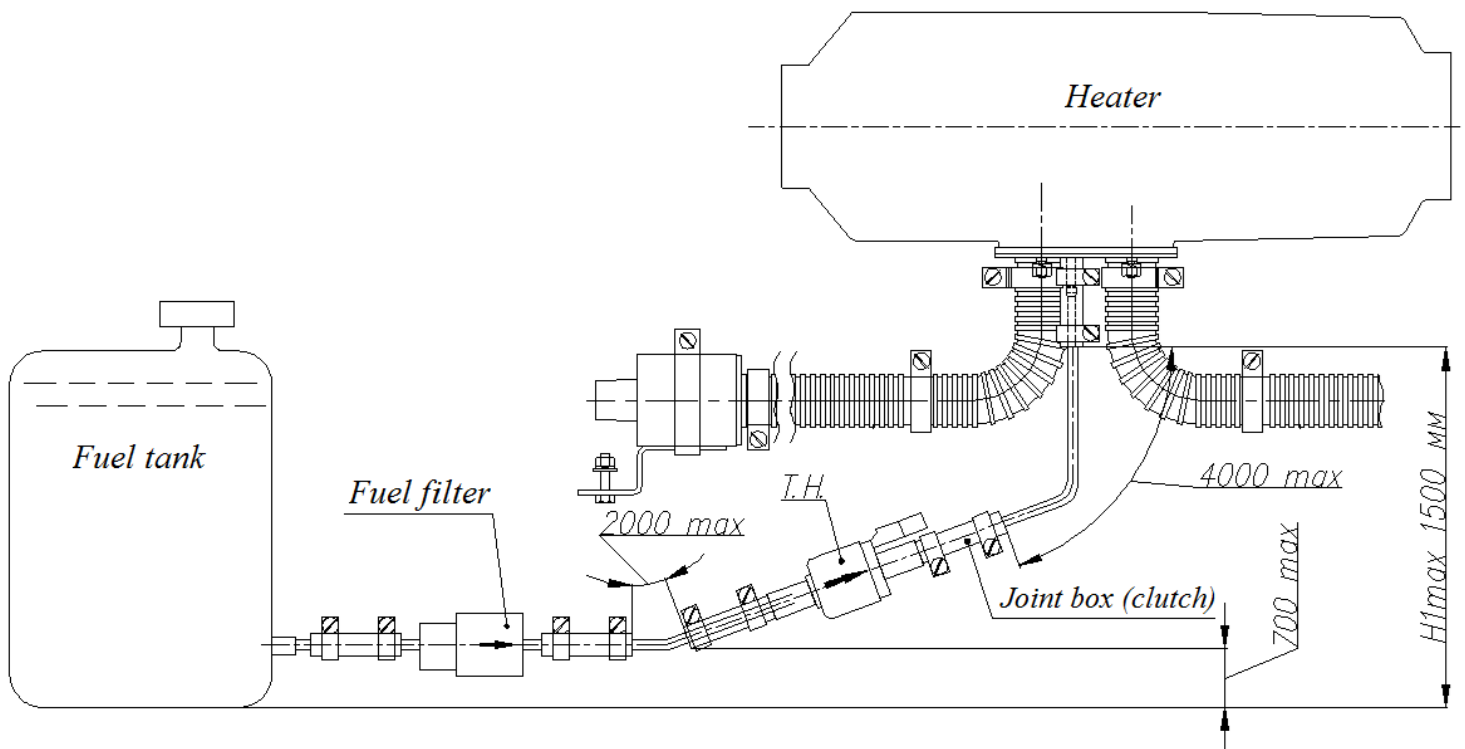
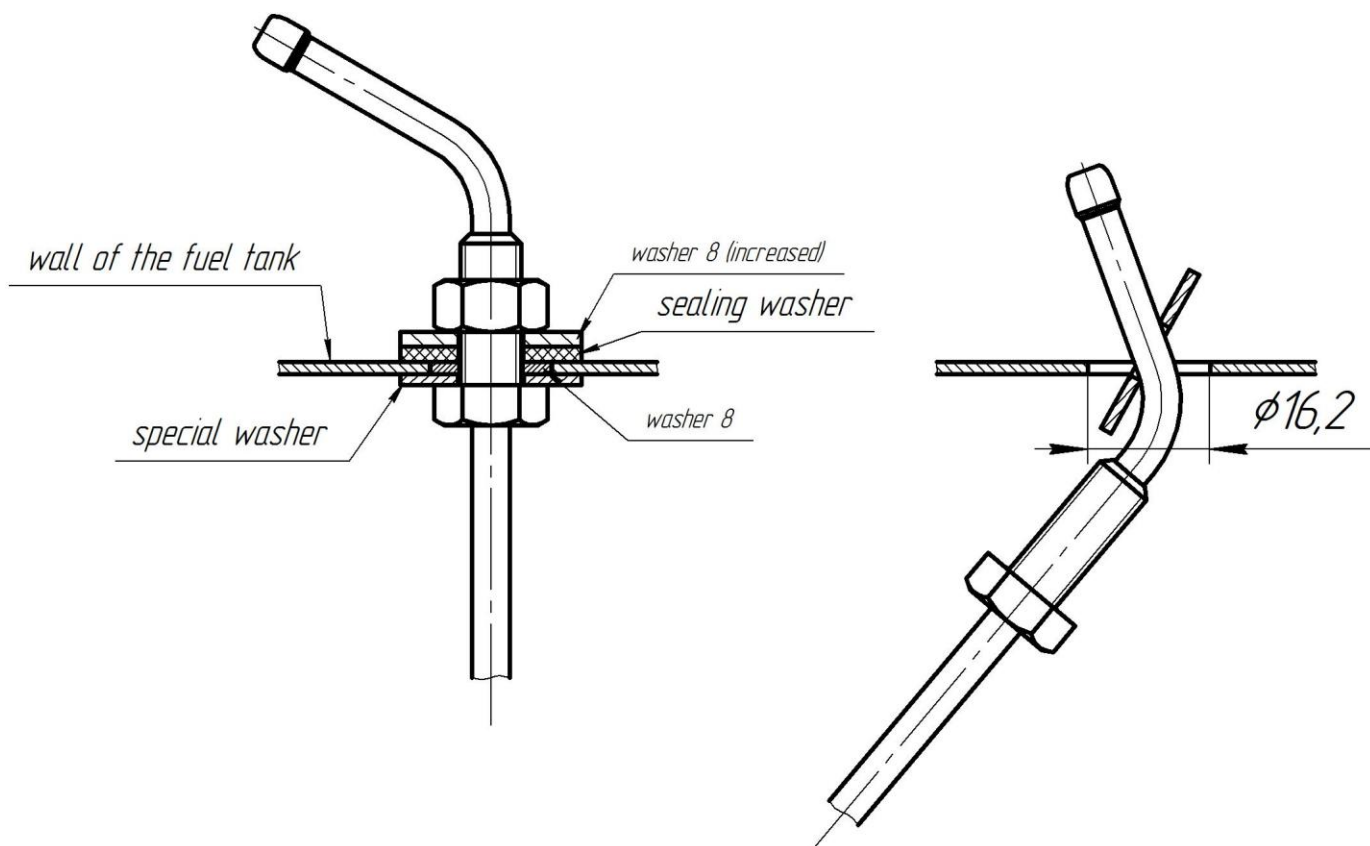
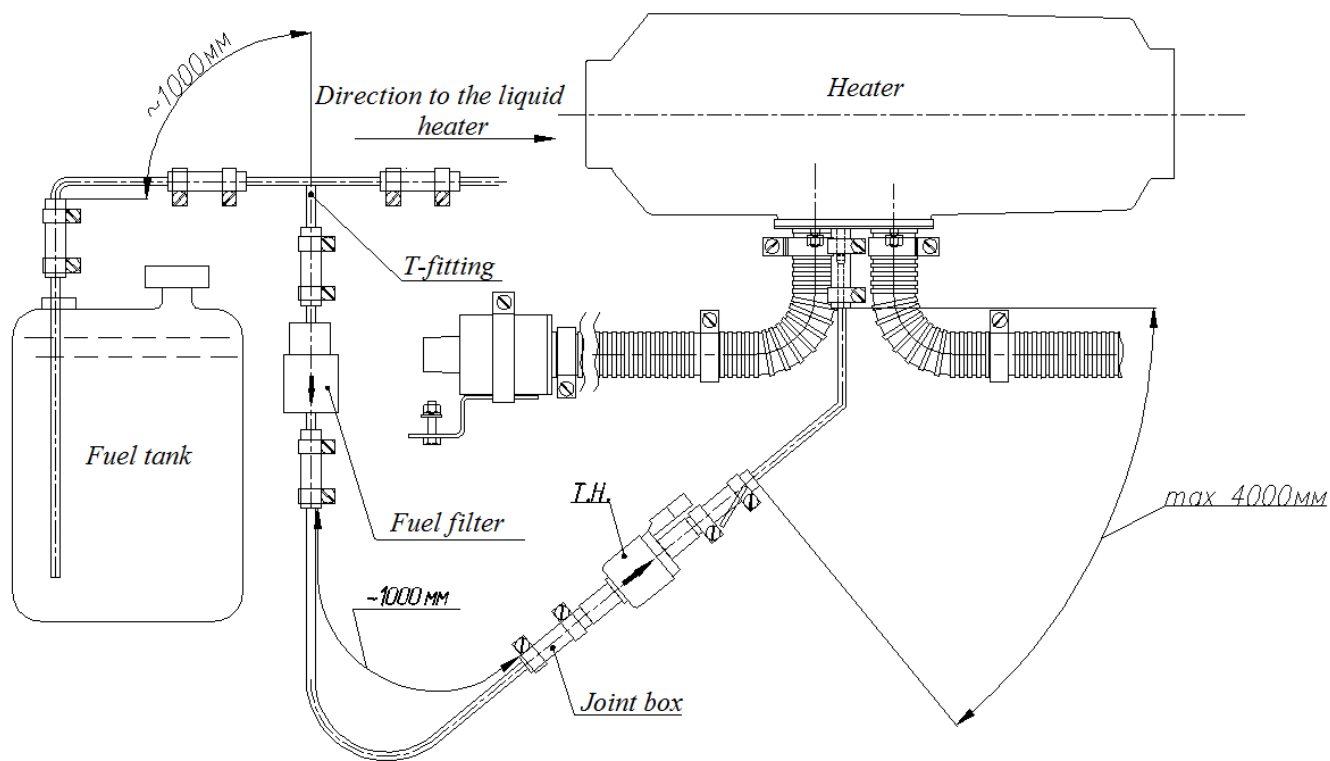

Fig.11 The diagram of the assembly of the fuel system of the heater with an individual fuel tank
Fig. 12 Fuel supply intake installation in a regular tank of the car
Fig.13 The diagram of assembly of the fuel system of the heater into the fuel system of the liquid heat booster
The circuit of connections of knots and details of a heater are shown in Fig.11.
- the fuel tube of the heater should preferably be placed above the maximum fuel level in the fuel tank (see Fig. 11, Fig.13);
The relative positions of the fuel tank, fuel pump and heater are shown in Fig.11 and Fig.13. The installation diagram of the fuel intake is shown in Fig.12.